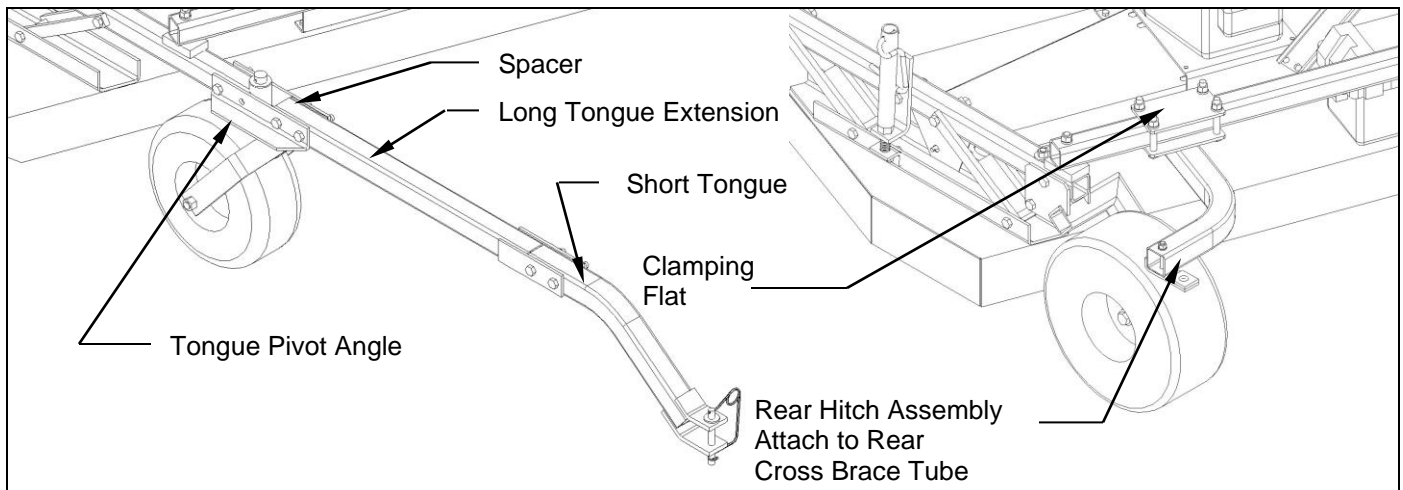

Figure 4: Long Tongue Assembly and Rear Hitch Assembly
1. When a long tongue is needed, remove the tongue pivot angles and spacer from the tongue assembly and attach to the tongue extension. **See figure 4.** Slip the tongue in between the two flats on the tongue extension and secure with 1/2" x 3-1/2" hex head bolts, lock washers, and nuts provided.
2. When a second mower is pulled behind the first mower in tandem, then the rear hitch assembly can be installed on the rear cross brace tube. **See figure 4.** Remove the four 1/2" x 3-1/2" bolts from the rear hitch assembly and position the rear hitch in the desired location on the cross brace tube. Insert the four 1/2" x 3-1/2" bolts from the bottom up and place the clamping flat on the top. Secure the bolts with the lock washers and the nuts. Tighten down appropriately to prevent unwanted loosening.